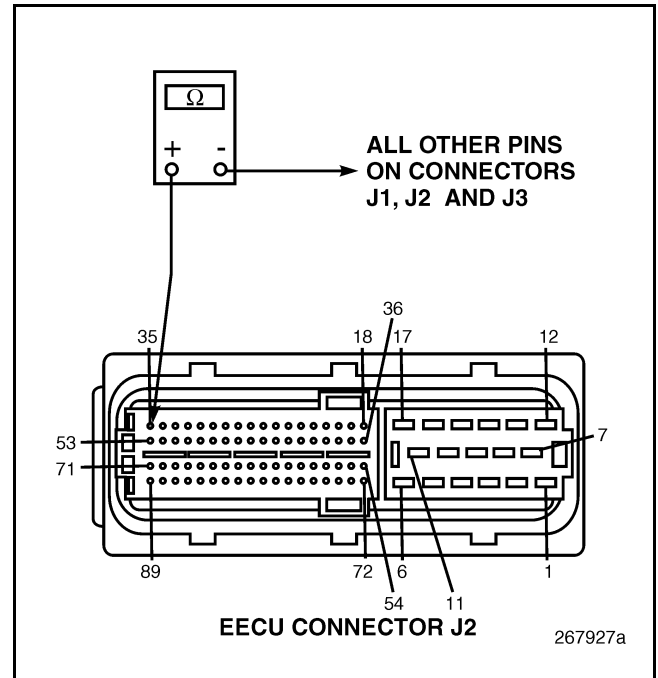

Figure 186
4. Check for continuity between EECU harness connector J2 pin 35 (reference voltage line) and all other pins in EECU harness connectors J1, J2, and J3 (see Figure 186).